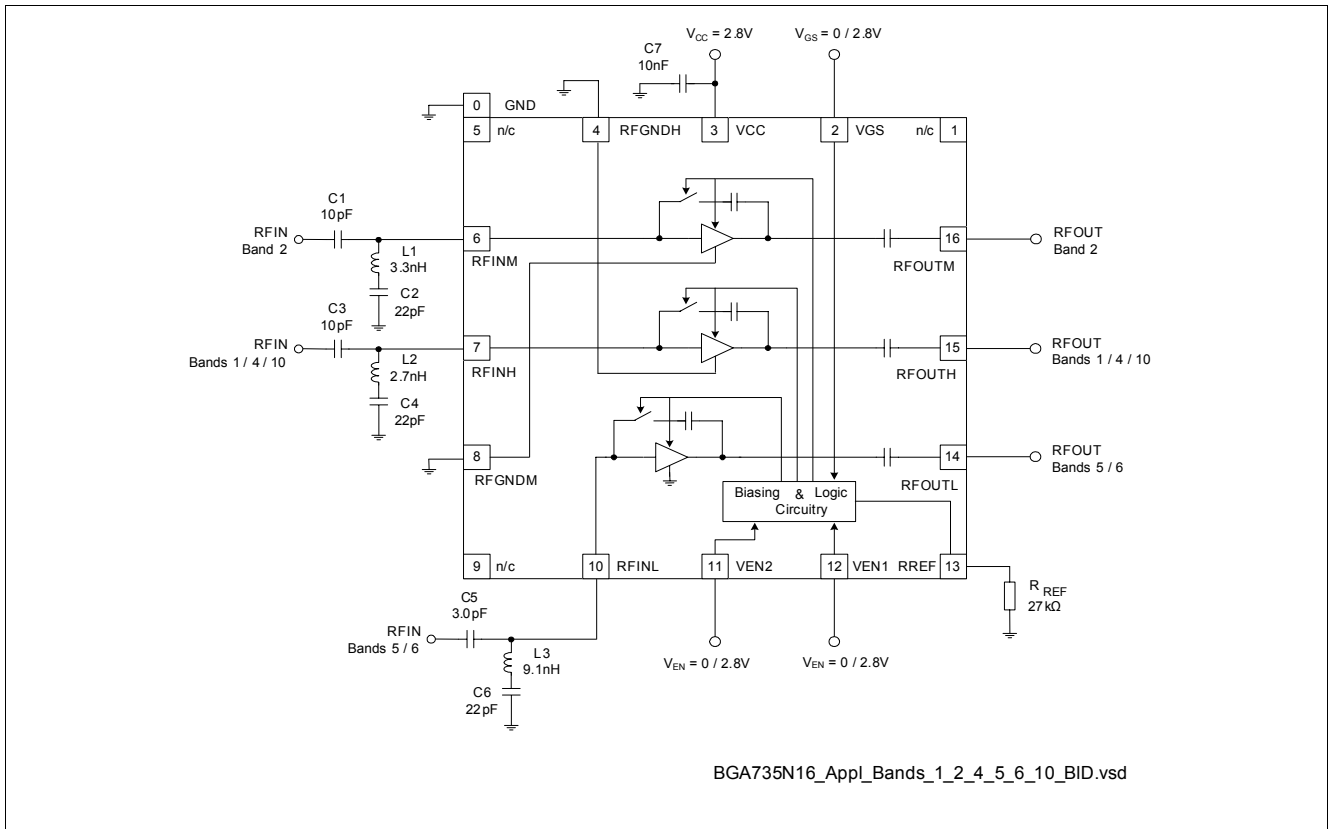

Figure 2 Application Circuit with Chip Outline (Top View)
1) Performance based on application circuit in Figure 2 on Page 24